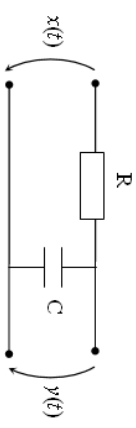

Fig. 11
a) measure the R and C components, using the digital multimeter. Make the circuit corresponding to Fig. 11, on the test breadboard. Input to the circuit (from the function
a) Determine the modulus of the transfer function of the $R-C$ filter (Fig. 11). Input to the circuit a sinusoid of frequency f_i , having the level (amplitude) set at $U_i |_{dB} = 0dB$. Measure the level of the output signal, $U_o |_{dB}$, on the dB scale of the AC millivoltmeter. Calculate the modulus of the transfer function (relation (7b)), $|H(\omega)|_{dB} = U_o |_{dB} - U_i |_{dB}$. Measure at frequencies $f_{-3dB}/10, f_{-3dB}/4, f_{-3dB}/\sqrt{3}, f_{-3dB}, \sqrt{3} \cdot f_{-3dB}, 4 \cdot f_{-3dB}, 8 \cdot f_{-3dB}, 10 \cdot f_{-3dB}$, where f_{-3dB} is the frequency measured at 1a).
a) Input the sinusoid $x(t)$, from the function generator, at CH1, and the signal $y(t)$, from the output of the circuit (Fig. 11), at CH2 of the scope. Select the display mode for the scope **Display** → **Y(X)**, and, in the absence of the two signals (coupling **GND** for CH1 and CH2), centrally position the point which appears on the display. Apply the signals on both channels (coupling **DC** for CH1 and CH2), and adjust the vertical deflection coefficients at the same value ($C_{y_1} = C_{y_2}$), choosing their value so that the image of the ellipse is as large as possible on the display. Measure the segments **CC'** and **DD'** on the display. Write down their values in the table, and calculate the phase shift ($\varphi_e = -\arcsin \lambda$, where $\lambda = \frac{DD'}{CC'}$). Do these measurements at each frequency mentioned in the table.
Set the alternative function, TTL output, from the generator, using the **SHIFT** key followed by the **TTL** softkey, so that the **TTL** indicator is lit on the display. This output generates a signal at the same frequency as the main output, but rectangular and with TTL level. Apply the signal, from the **TTL** output of the generator, to the input of the circuit in Fig. 11. The frequency of the signal will be $10 \cdot f_{-3dB}$, where f_{-3dB} is the cutoff frequency of the circuit, determined at 1. Apply the signal from the output of the circuit, to the CH1 input of the scope. Draw the image obtained on the display. What is the function of the circuit?
13. Deduce the transfer function (magnitude and phase) of the circuit in Fig. 11.